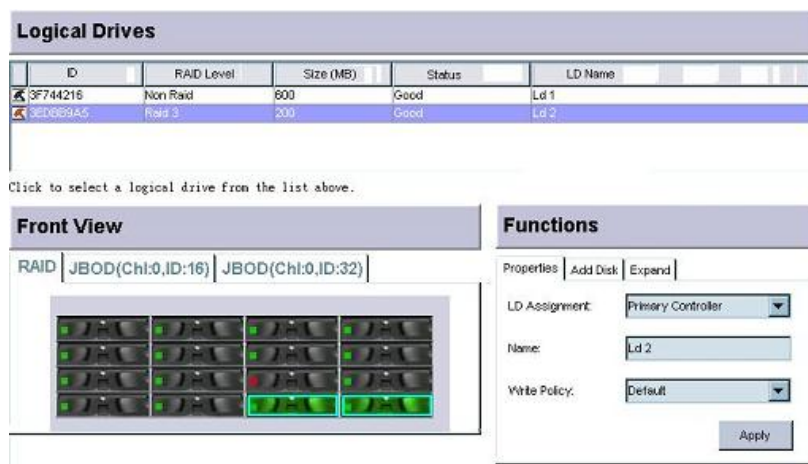

Figure 9-4: List of LDs
Step 2. From the list shown in **Figure 9-4**, select the LD for which you wish to change its characteristics or configure. Once this LD has been selected, its members will appear in the Front View sub-window. At the top of the **Functions** window, three tabs (**Properties**, **Add Disk** and **Expand**) will appear.